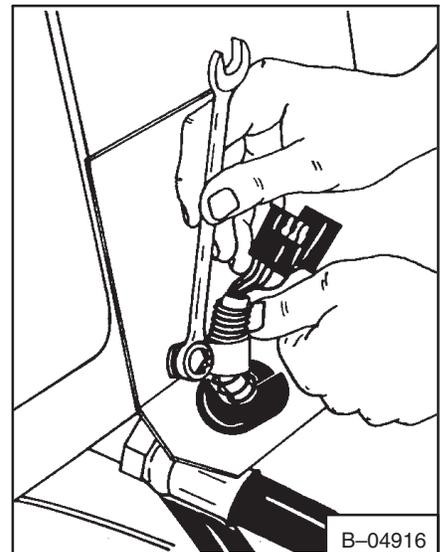

Fig. 2-86 Removing Bracket
2. Remove the harness bracket (Fig. 2-86).
4. Install the harness bracket (Fig. 2-86).